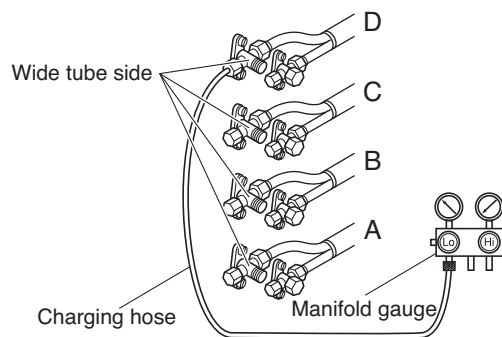

Fig. 23
- (2) Connect the manifold gauge to the charging port at the valve on the wide tube side of tube D. Purge the air from the charging hose. (Refer to Fig. 23.)
- (3) Perform cooling operation or forced cooling operation. When the pressure at the low-pressure side is 0.05 – 0.1 MPaG (0.5 – 1 kg/cm²G), fully close the spindles at the valves on the wide tube side of tubes A, B, C, and D, and immediately stop operation. (Refer to Fig. 23.)